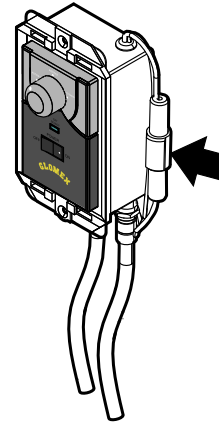

Fig. 51
- Remove the blown fuse from its seat indicated in **Fig. 51** and replace it with a new one (**type T 3.15A L 250 VAC 5x20**, i.e. delayed-action tube fuse, with 5 mm diameter and 20 mm length, 3.15 A rated current and 250 V rated voltage).